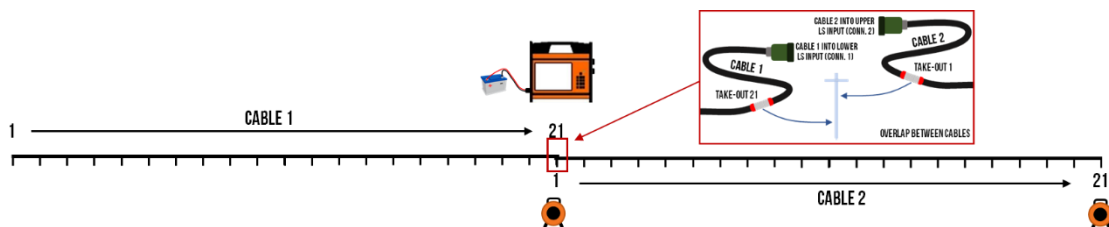

Figure 115 Schematic of a 41 electrode, 2-cable set-up; note the 21 take-out cables use an overlap between cables, where they share a single electrode
- If cables are used at their full take-out spacing, lay out the cables first, overlapping last and first take-outs (only done with 21 take-out cables, see Figure 115), then use the take-outs to position electrodes.